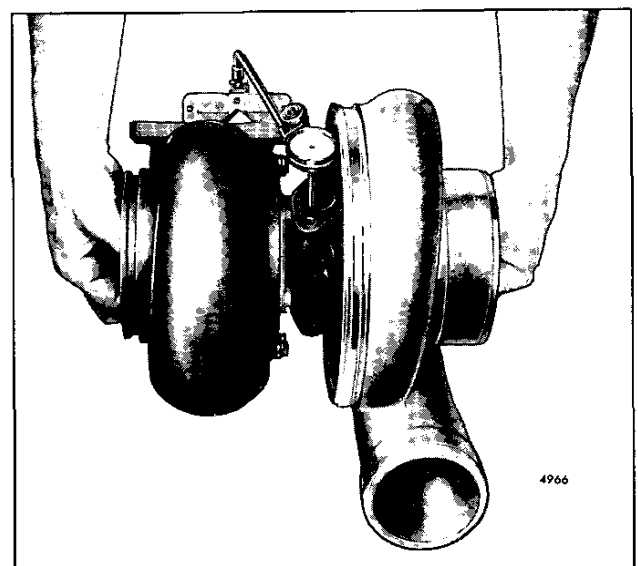

Fig. 21 – Checking Shaft Radial Movement
19. Position the compressor housing (2) as marked at disassembly against the backplate (14) and secure it in place with the "V" band coupling (1). Lightly lubricate the threads of the toggle bolt with engine oil and tighten the nut to 110–130 *lb-in* (12–15 N·m) torque.
- a. Position the magnetic base J 7872-2 with the swivel adaptor J 7872-3 on the flat surface of the turbine housing inlet flange (Fig. 21).
- d. Grasp each end of the rotating assembly (Fig. 21) and, applying equal pressure at each end, move the rotating shaft first toward and then away from the dial indicator, creating a transverse movement in the shaft. The dial indicator displacement should be between .003" and .007". If the displacement does not fall within these limits, disassemble and repair or replace the rotating assembly.